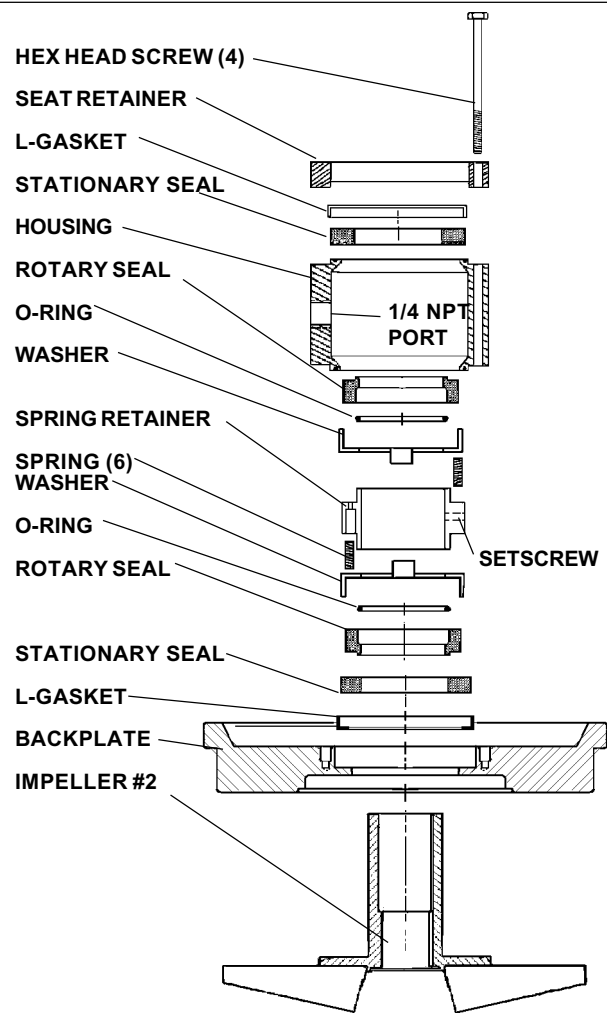
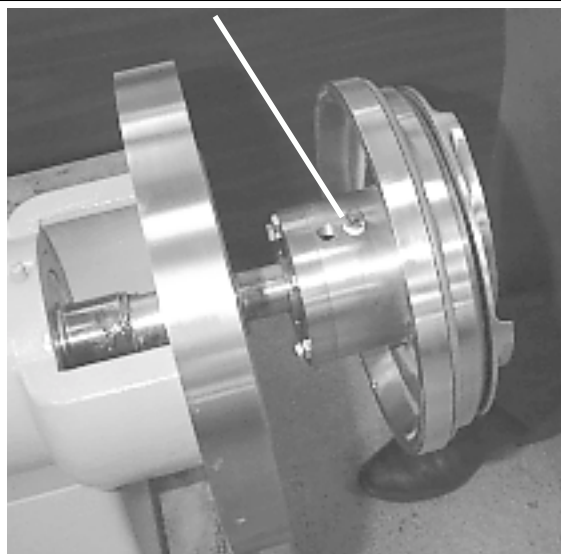

Figure 27
Figure 28
2. Install L-gaskets in backplate and seat retainer. Install stationary seals in L-gaskets. (Figure 27)
5. Place the remaining three (3) springs in the spring retainer. Slide the washer and O-ring onto the shaft against the spring retainer. Use the the seat retainer to press the O-ring into rotary seal.
6. Remove 1/4 NPT plug (Figure 28) from center port on flush housing and install an O-ring in both ends of housing. Install housing over seal assembly. Place seat retainer on housing and tighten in place with four (4) cap screws. BE SURE TO TIGHTEN SCREWS EVENLY UNTIL FULL METAL TO METAL CONTACT IS MADE ON BACKPLATE AND SEAT RETAINER.